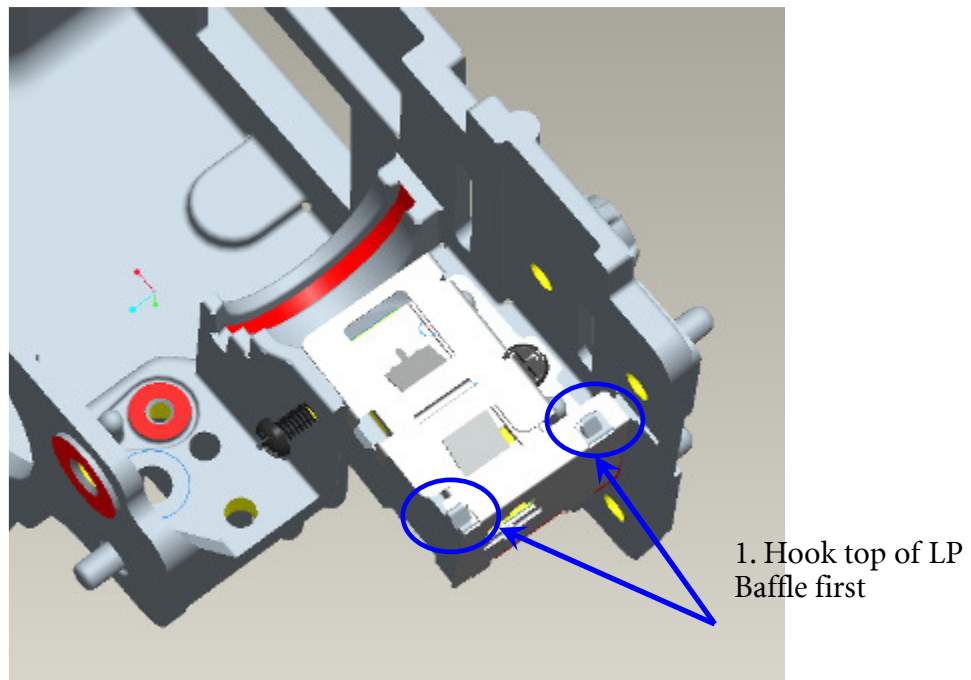
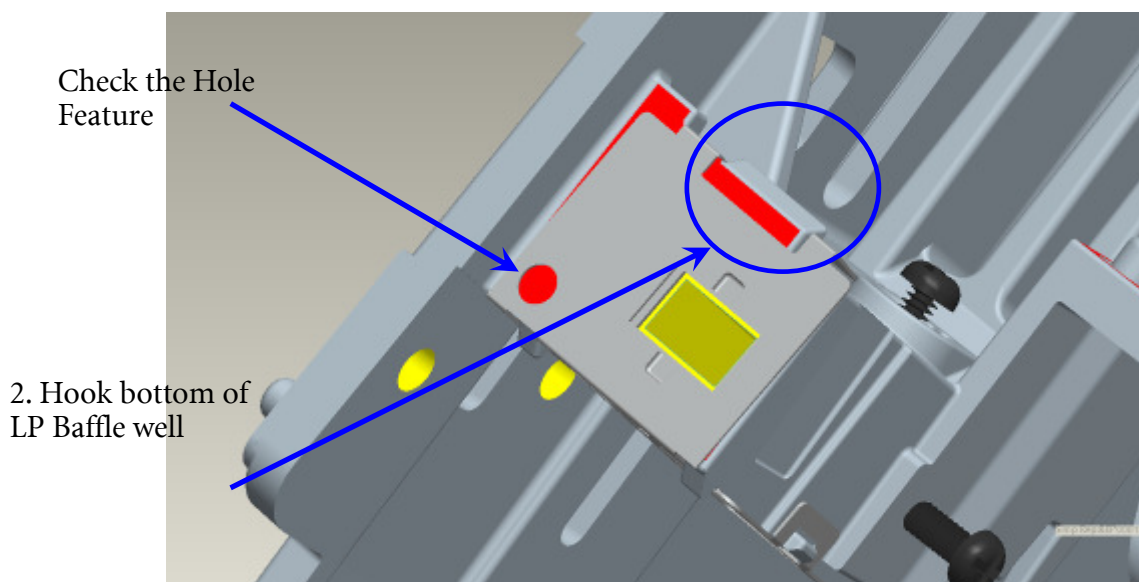

Fig. 1-6
Fig. 1-7
- v. Assembly “Baffle LP”, Hook top of Baffle LP first (Fig. 1-6) & Hook bottom of Baffle LP to HSG DMD well (Fig. 1-7).